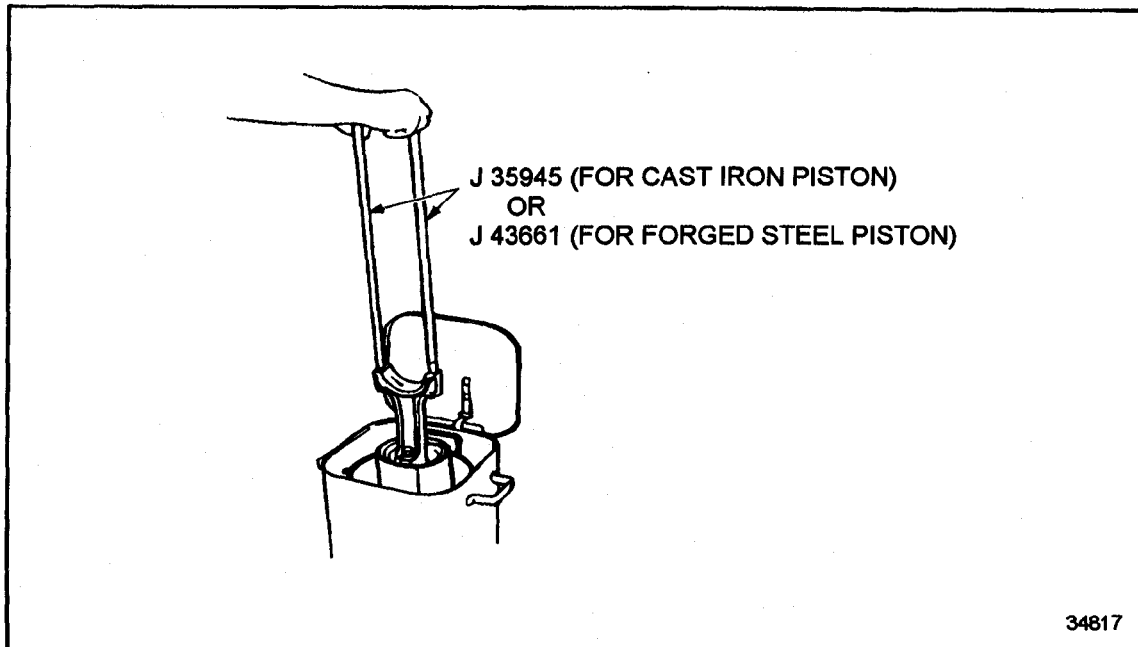

Figure 1-266 Connecting Rod Guides Installation
12. Install connecting rod guide, (J 35945 for cast iron piston or J 43661 for forged steel piston) over the ends of the connecting rod bolts to prevent damaging the crankshaft journals or the joint face of the rod. The guides also prevent the connecting rod from contacting the liner and damaging the surface. See Figure 1-266.